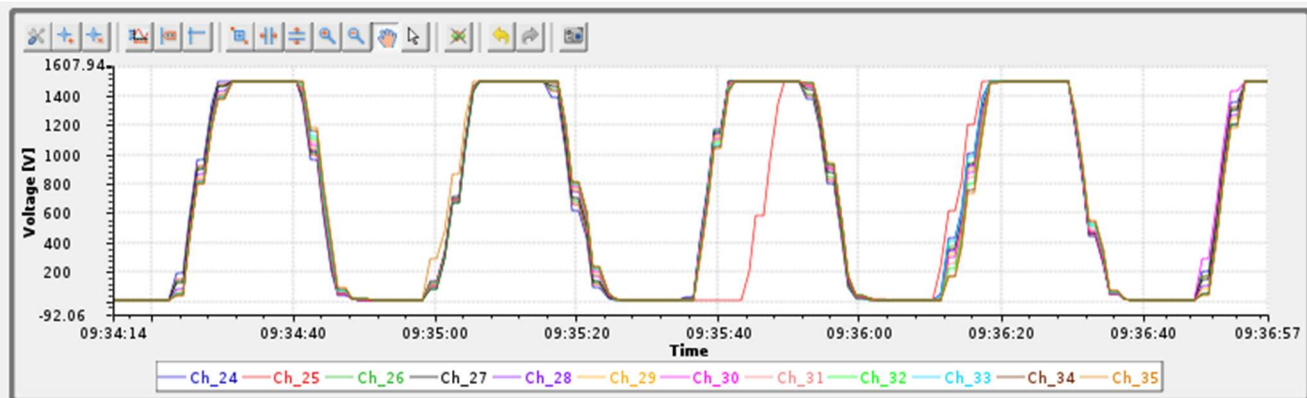
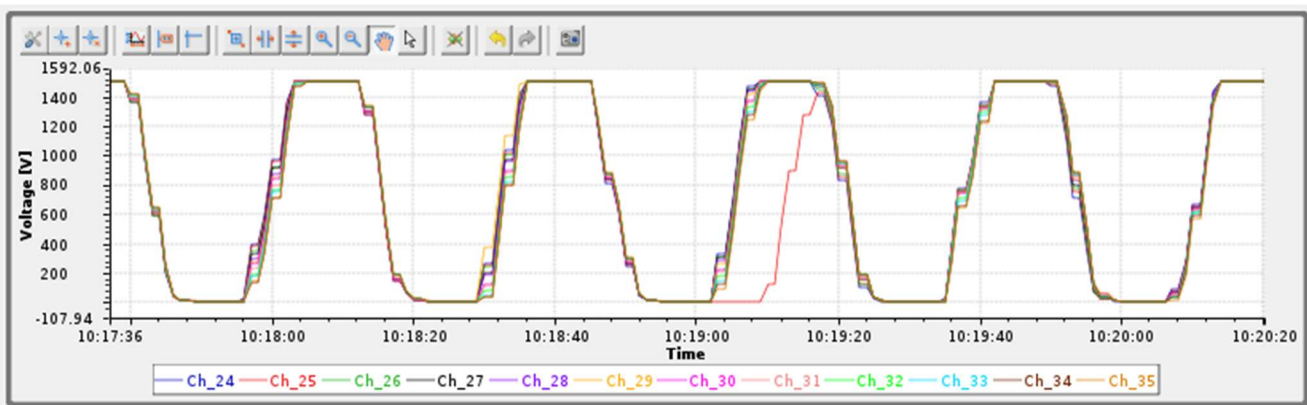

Fig.13 – HV CAEN – Voltage Ramp Test CSS BOY screen shows the fourth latency incident for channel 25.
Fig.14 – HV CAEN – Voltage Ramp Test CSS BOY screen shows the fourth latency incident for channel 25.
1. Channel 25 had a latency to ramp up and same behavior as mentioned in previous test, channel 25 presented the latency issue two times during this trial. See fig.13 and fig.14.